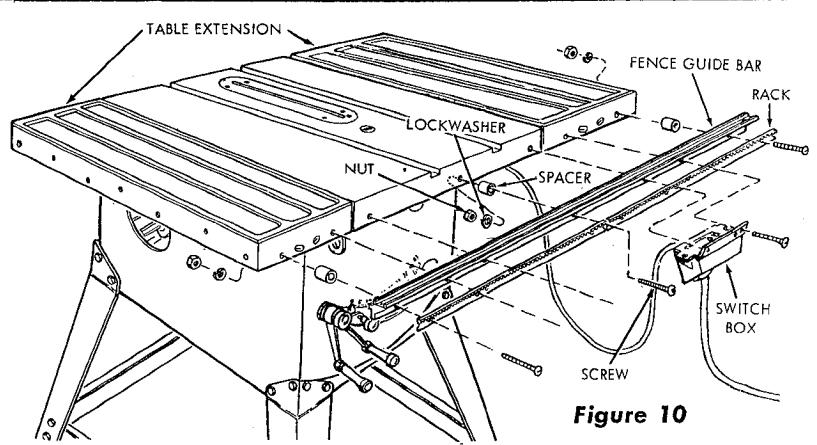

Figure 10
#### c. Installation of fence guide bar, rack and switch box support. (See figure 10.)
- (1) Insert a 1/4-20 x 2 inch, slotted round-head screw through the center hole of guide bar and through a spacer. The guide bar should be positioned so the scale faces upward, and is readable from the front of the saw. (See figure 10.)
- (2) Attach this assembly to the center hole in the table and secure the assembly with a 1/4 inch lockwasher and 1/4-20 inch hex nut. Do not tighten the nut until all attaching screws are in position.
- (3) Place each rack in position (as shown in figure 11) and insert a 1/4-20 x 2 inch slotted round head screw through the outside hole, through the guide bar, spacer and table extension. Secure with a 1/4 inch lockwasher and 1/4-20 inch hex nut. (See figure 10.)
- (4) Place switch box in position (either to right hand or left hand side of saw table as desired). Attach with two 1/4-20 x 2 inch slotted round head screws through switch box mounting flange, rack, guide bar, spacer and table. Secure with two 1/4 inch lockwashers and 1/4-20 inch hex nuts. (See figures 10 and 11.)
- (5) Complete attachment of opposite rack with two more screws, aligned with table in the same sequence described above. Tighten all screws securely.
- (2) Slide the rip fence along the guide bar while watching the clearance between lower edge of fence and table top. If any portion of the fence (except sliding pad at rear) drags on table top, or if clearance between fence and table top varies appreciably as the fence is moved, the guide bar must be readjusted. This is accomplished by loosening the attaching screws (figure 10) and re-positioning the bar until a consistent clearance exists over entire top surface of the table.